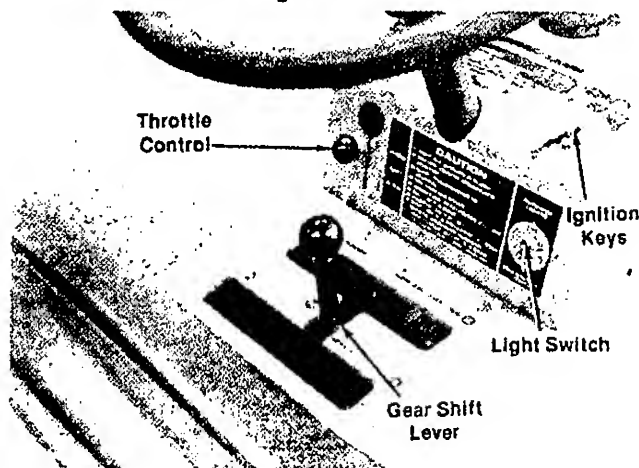

FIGURE 11.
**a. Throttle Control.** The throttle control is used to regulate the engine speed and choke the engine. The engine should be operated from  $\frac{3}{4}$  to full throttle when operating the cutting deck. See figure 11.
**b. Gear Shift Lever.** The gear shift lever is used to shift into one of three **Forward Gears**, **NEUTRAL** or **REVERSE**. See figure 11.
c. **Light Switch.** Push the light switch up to turn on the lights. The lights will only operate when the engine is running. See figure 11.
See figure 11. Turn the key to the START position, to start the engine. When the engine is running, let the key return to the ON position. To stop the engine, turn the key to the left to the OFF position and remove it to prevent accidental starting.